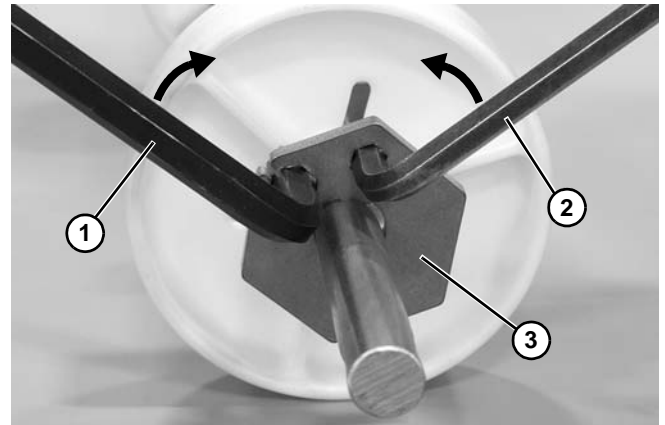

Figure 78
4. Insert an 8 mm (**Figure 78, item 1**) and 6 mm (**Figure 78, item 2**) hex wrench into the retainer plate.
5. Move wrenches toward each other to unlock the retainer plate (**Figure 78, item 3**) and remove from the shaft.